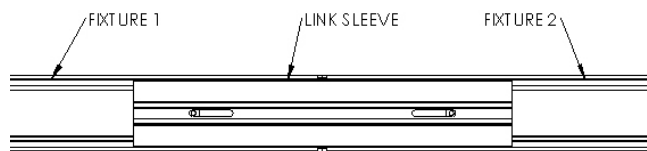

Fig. 6
7. Line up slots in external sleeve with holes in fixture and lock external sleeve to both fixture 1 and fixture 2. Ref (Fig. 6 & 7)